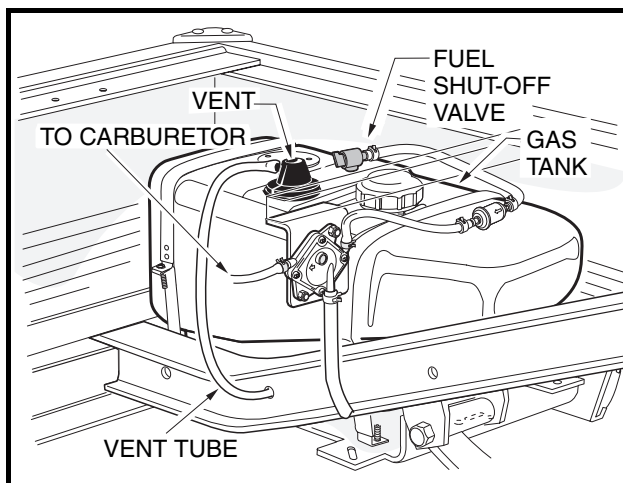
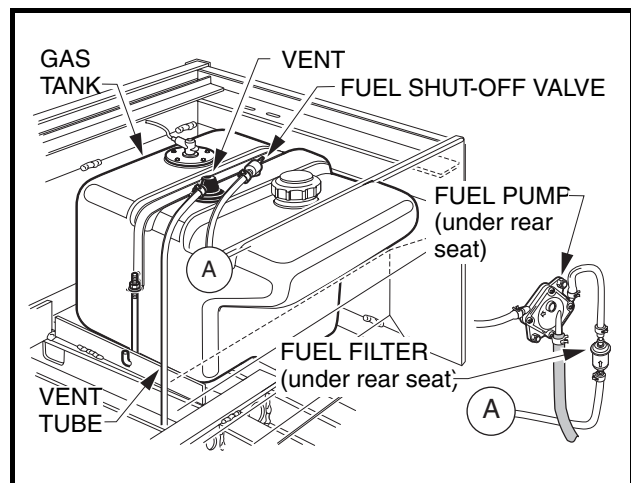

Figure 3-2 Turf-CA 272/XRT 1200 Fuel Tank
Figure 3-3 Carryall 472/XRT 1200SE Fuel Tank
10. Disconnect vent tube from fuel tank vent (**Figure 3-2, Page 3-3 or Figure 3-3, Page 3-3**).
2. Remove plug from vent tube and connect to tank vent (**Figure 3-2, Page 3-3 or Figure 3-3, Page 3-3**).